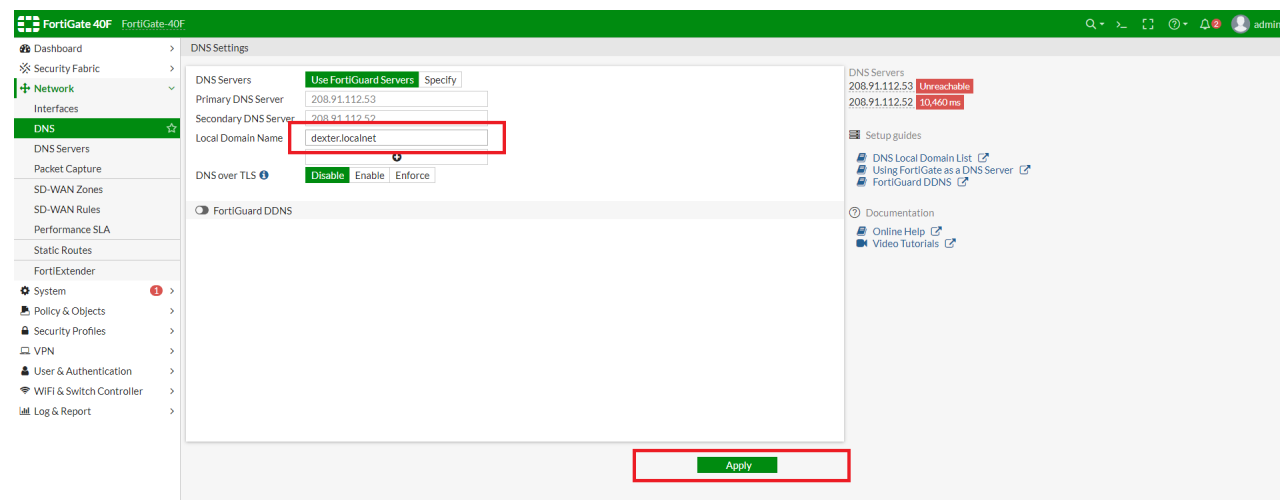

Figure 10
3. Setup the Local Domain Name by navigating to "Network" in the navigation panel then select "DNS". In the field for "Local Domain Name" enter **dexter.localnet** then apply the changes by selecting "Apply". (Figure 10)